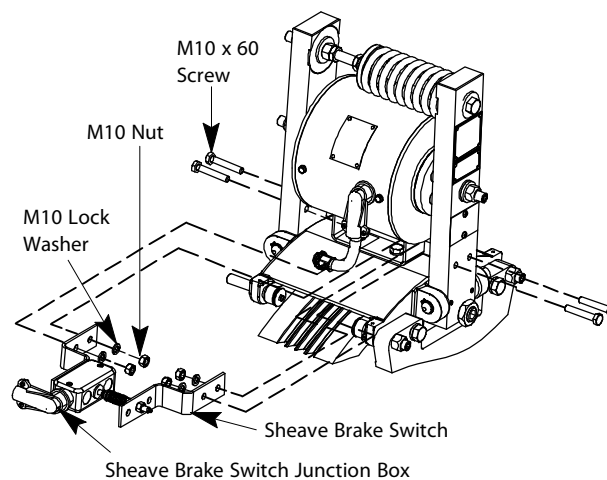

Figure 16 - Sheave Brake Switch Relocation
1. Remove the two (2) M10 x 60 screws and the two (2) M10 nuts attaching the sheave brake switch to the sheave brake assembly.
2. Remove the two (2) M10 x 60 screws and the two (2) M10 nuts attaching the sheave brake switch actuator to the sheave brake assembly.
3. Use four (4) M10 x 60 screws and four (4) M10 nuts to reassemble the sheave brake switch and actuator on the opposite side of the sheave brake. See Figure 16.